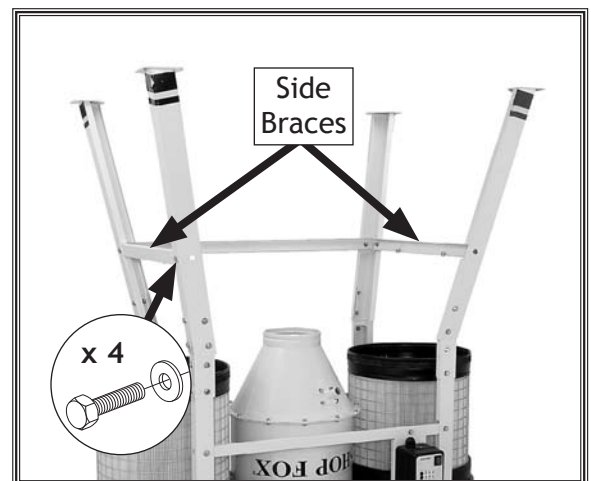

Figure 18. Side stand braces attached.
- Connect the two side stand braces to the lower stand legs with (4) $\frac{3}{8}$ "-16 x $\frac{3}{4}$ " hex bolts and (4) $\frac{3}{8}$ " flat washers, as shown in **Figure 18**.